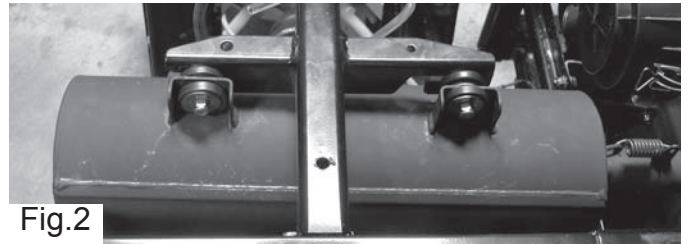

Fig.2
4. While holding the muffler, loosen the two (2) stock muffler mounting bolts (fig.2).